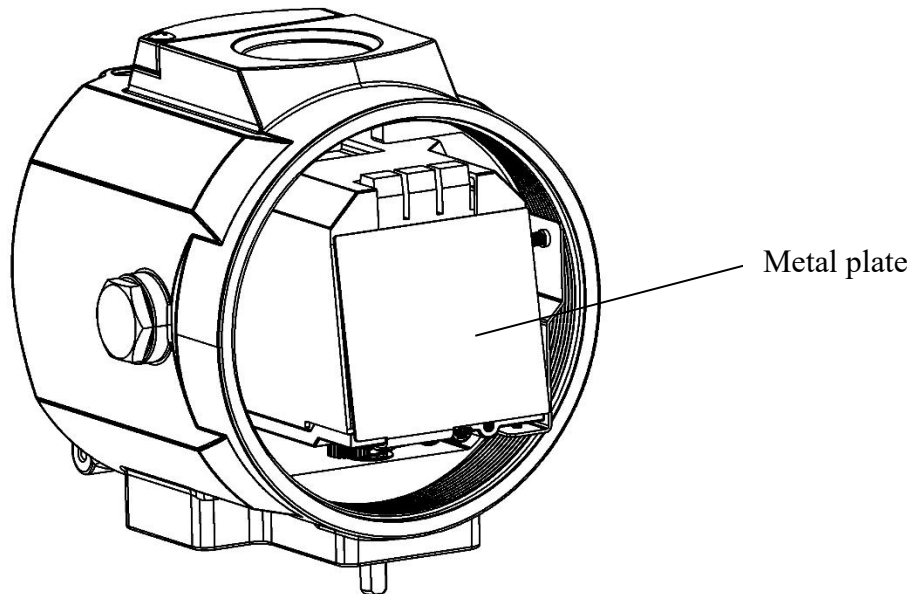

Figure 29. Internal metal plate
- Install the feedback module according to the position shown in Figure 29, and connect